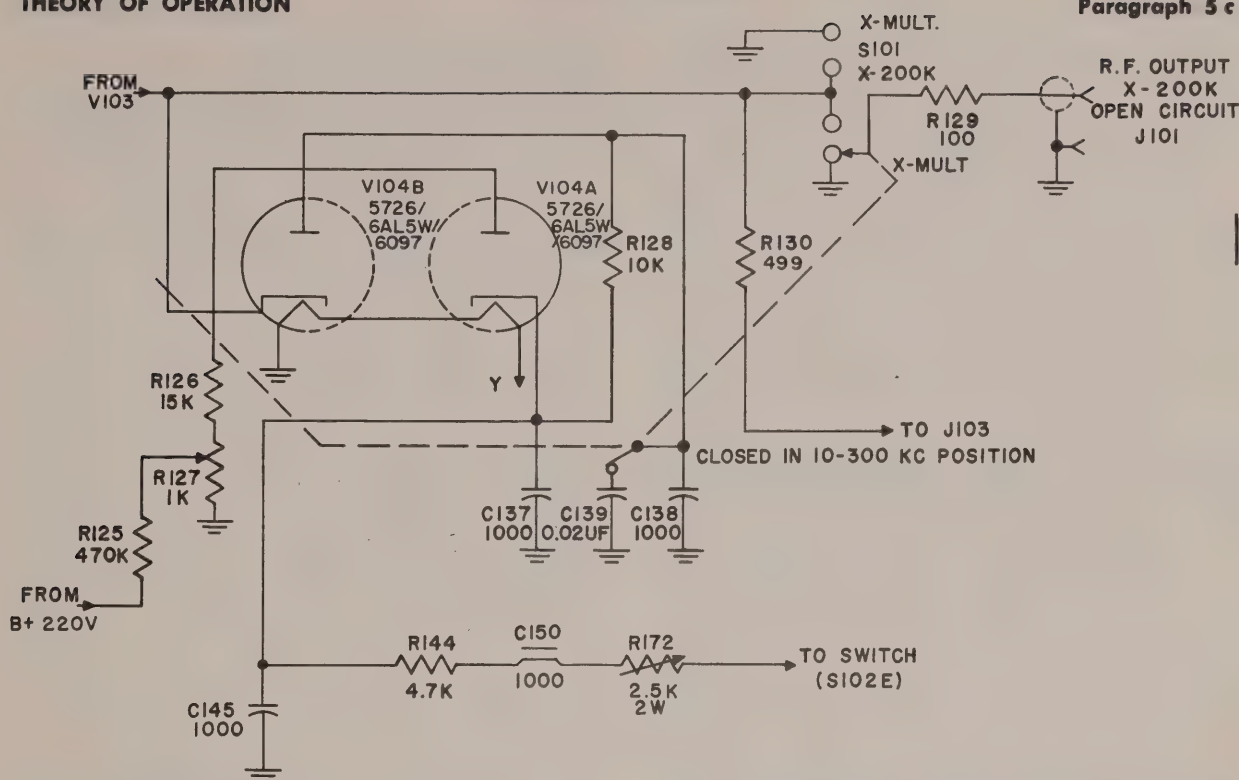

Figure 2-7. Simplified Schematic Diagram of the Vacuum Tube Voltmeter
e. VACUUM TUBE VOLTMETER (See figure 2-7).